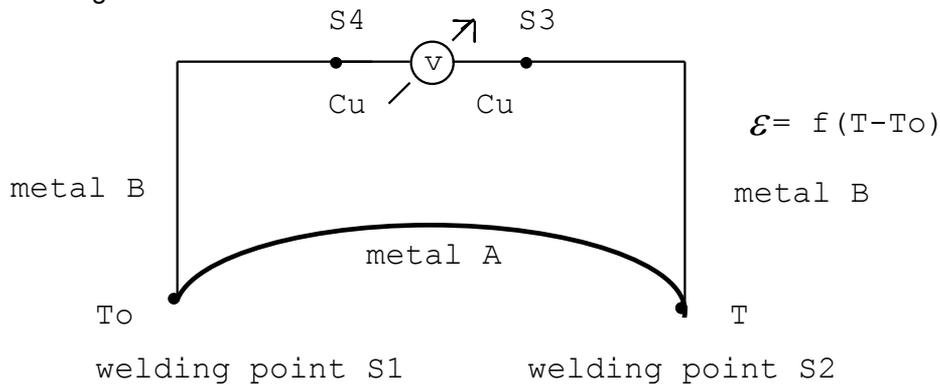
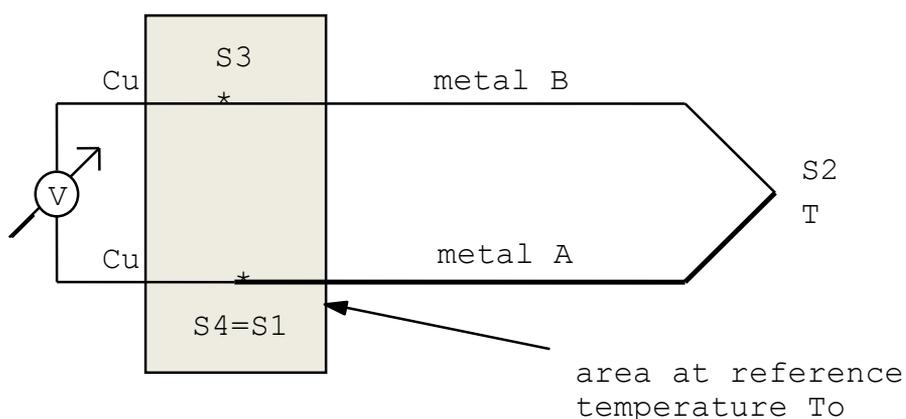

Figure 3: Measurement of Seebeck voltage
Figure 5 : Improved thermocouple setup
Therefore, if we make a circuit out of two metals A and B (Fig. 3), one end of which is placed at a fixed temperature  $T_0$  and the other end a temperature  $T$ , we notice a thermoelectric voltage  $\mathcal{E} = f(T - T_0)$ , measurable with a precision microvoltmeter, that can sometimes reach 50 mV/K. This phenomenon, noticed for the first time by Seebeck in 1821, is called Seebeck effect.  $\mathcal{E}$  is called the Seebeck voltage.
- The connections  $S_1$  and  $S_2$  with the microvoltmeter B (see fig. 3) can provoke parasitic thermoelectric voltages, that are luckily negligible at room temperature. There exist several ways to get rid of these voltages (see Fig. 5).
Consequently, the circuit in fig. 3 can be replaced by that of fig. 4.